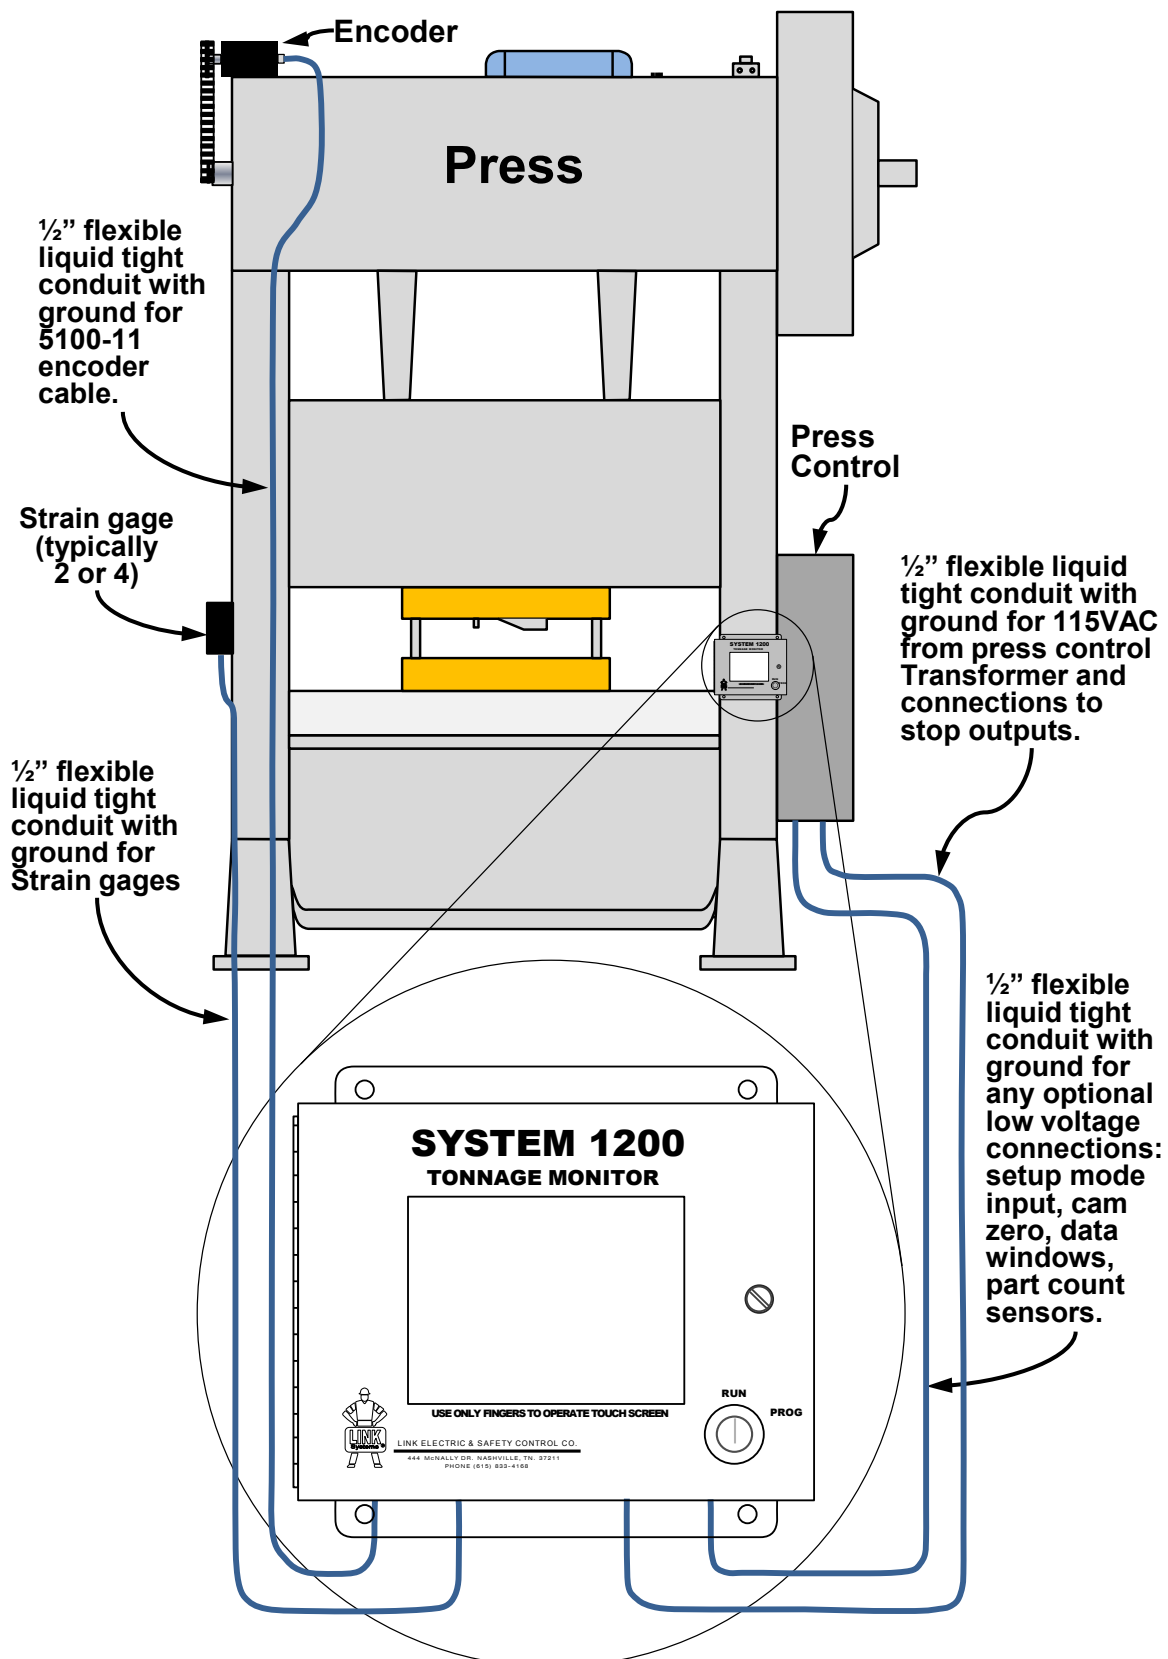

Figure 57: General View of Wiring Runs for Installation
Wiring for the System 1200 should be run in conduit. The use of flexible liquid tight conduit with ground is suggested, but hard conduit can also be used. Figure 57 shows some of the typical conduit runs that may be required.
**NOTE:** Do not run both 115VAC and lower voltage circuits in the same conduit from the System 1200 to the press control. If you have both 115VAC circuits and low voltage circuits, run them in separate conduits as shown in Figure 57.